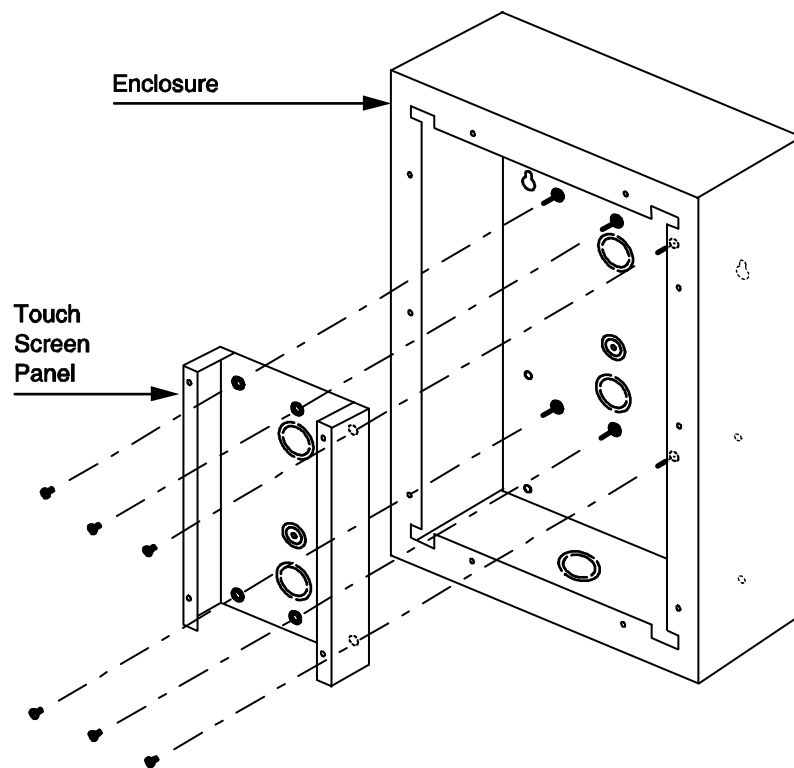

Figure 3. Touch Screen Panel
The Touch Screen panel attaches directly to the enclosure as shown in Figure 3 (for clarity the Touch Screen and controller boards are not shown).
1. Insert the Touch Screen panel inside the enclosure and secure using the supplied six screws as shown in Figure 3.